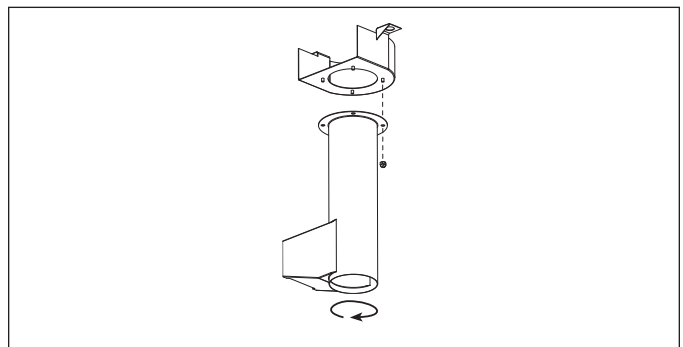

Figure 17.
- F. Rotate bottom portion of the auger screen 180° and secure to top portion with four nuts and washers (see Figure 17).